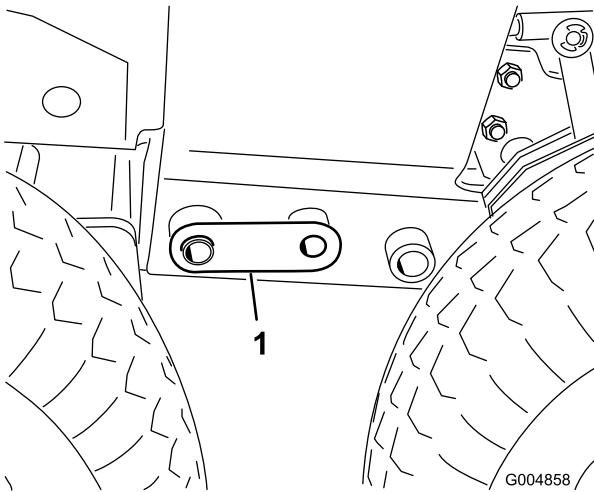

Figure 86
28. Remove the front jack stand and lower the front of the machine onto the tires until the coupler pins (Figure 86) are loose enough to be removed.